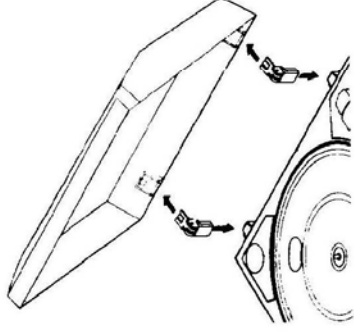

Fig. 1
3. Attach the dust cover to the unit. (Fig. 1)